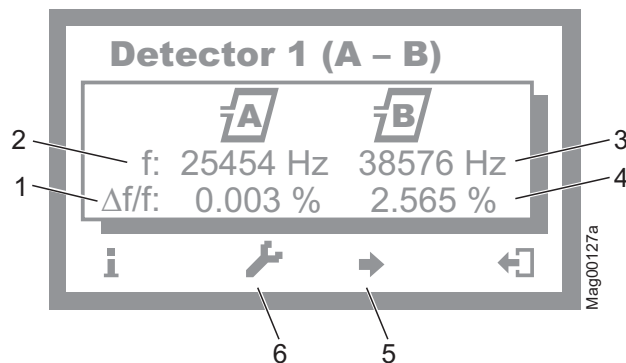

Fig. 45: Example "View – Menu Detector 1 (A-B)"
3. Press the left control button repeatedly, until the menu "Detector 1 (A-B)" is displayed. → See page 130, Fig. 45.